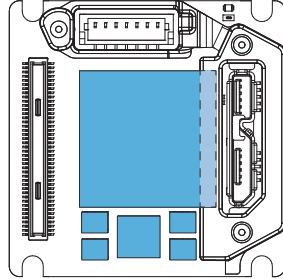

Figure 22: Components to be cooled for Alvium USB bare board cameras
1. Connect components (blue areas in Figure 22) to a heat sink, following the instructions of the manufacturer of the heat sink and the thermal conductive media. (Cooling areas for Alvium USB 90° cameras are the same.)